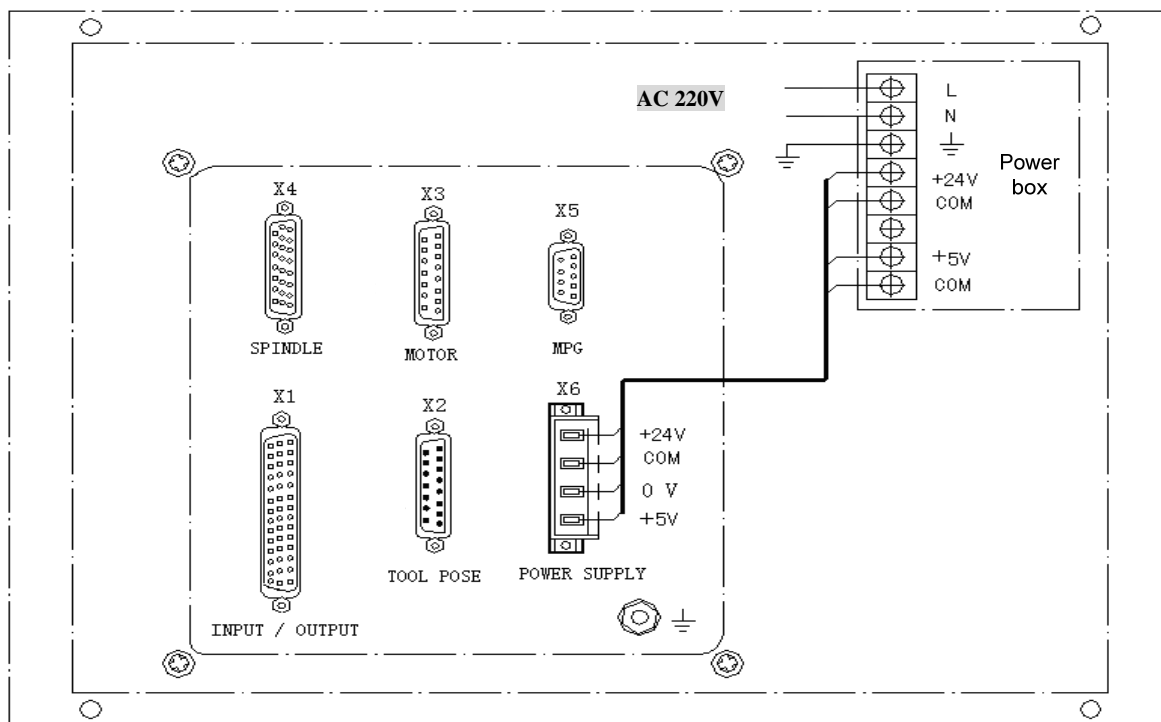

Fig. 1-1 Rear Cover Interface Layout
- Power supply box: adopts GSK-PB or GSK-PC2 power supply (Note that their connecting terminals are different); Fig. 1-1 shows GSK-PB power supply, which provides GND, +5V, +24V power.